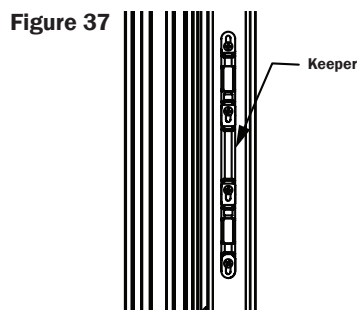

Figure 37
38. Using the dimples as a guide, install the keeper using the (4) #8 x 1-1/4" pan head screws. Adjust the keeper up or down until the latch engages properly (Fig. 37).